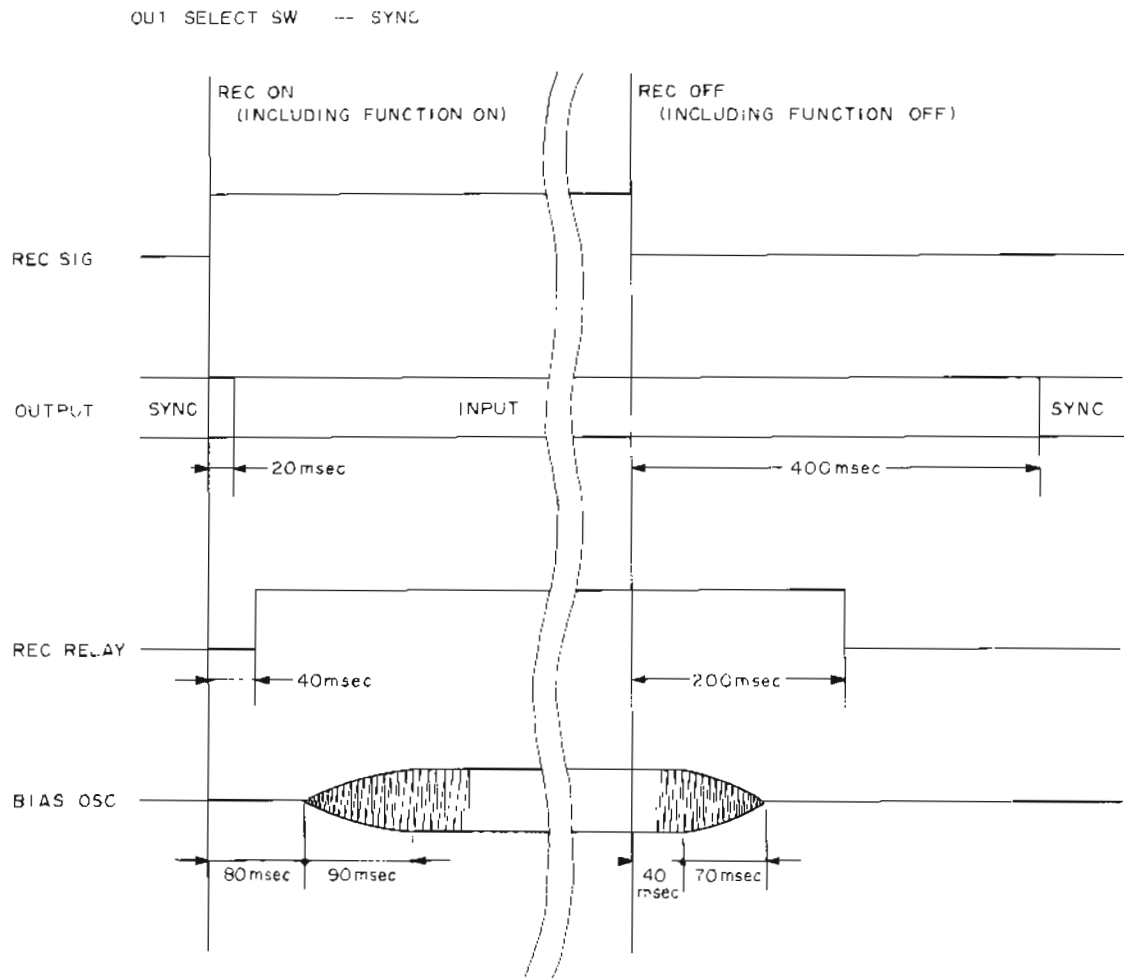

Fig. 1-16 (B). Record Circuit Switching Timing Diagram
3. The on and off switching timings for all above circuits (the bias switching circuit comprising Q118 & Q119, the REC relay switching circuits comprising Q120, and the OUTPUT (SYNC - INPUT) switching circuits comprising Q108 & Q109) are suitably fixed so that transient noise has no undesirable influence on recorded sound quality. The switching timings (delay time periods) of the circuits depend on the values of C132, C135 and C119, respectively. For details on the relationship between these, refer to Fig. 1-16(B).
See Figs. 1-16(A) (B) and the OUTPUT SELECT SECTION of the inserted Amp circuit diagram.